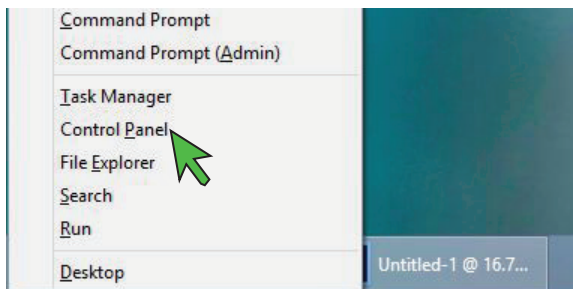
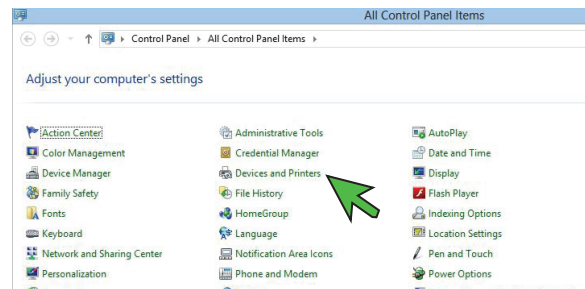

FIGURE 1A
FIGURE 1B
- 1) To view the PowerDriver configuration settings, hold down the Windows logo key on your keyboard, then press the letter “X.” This will open the screen below. Select **Control Panel** (see *FIGURE 1A*). Then select **Devices and Printers** in the Control Panel window (see *FIGURE 1B*).